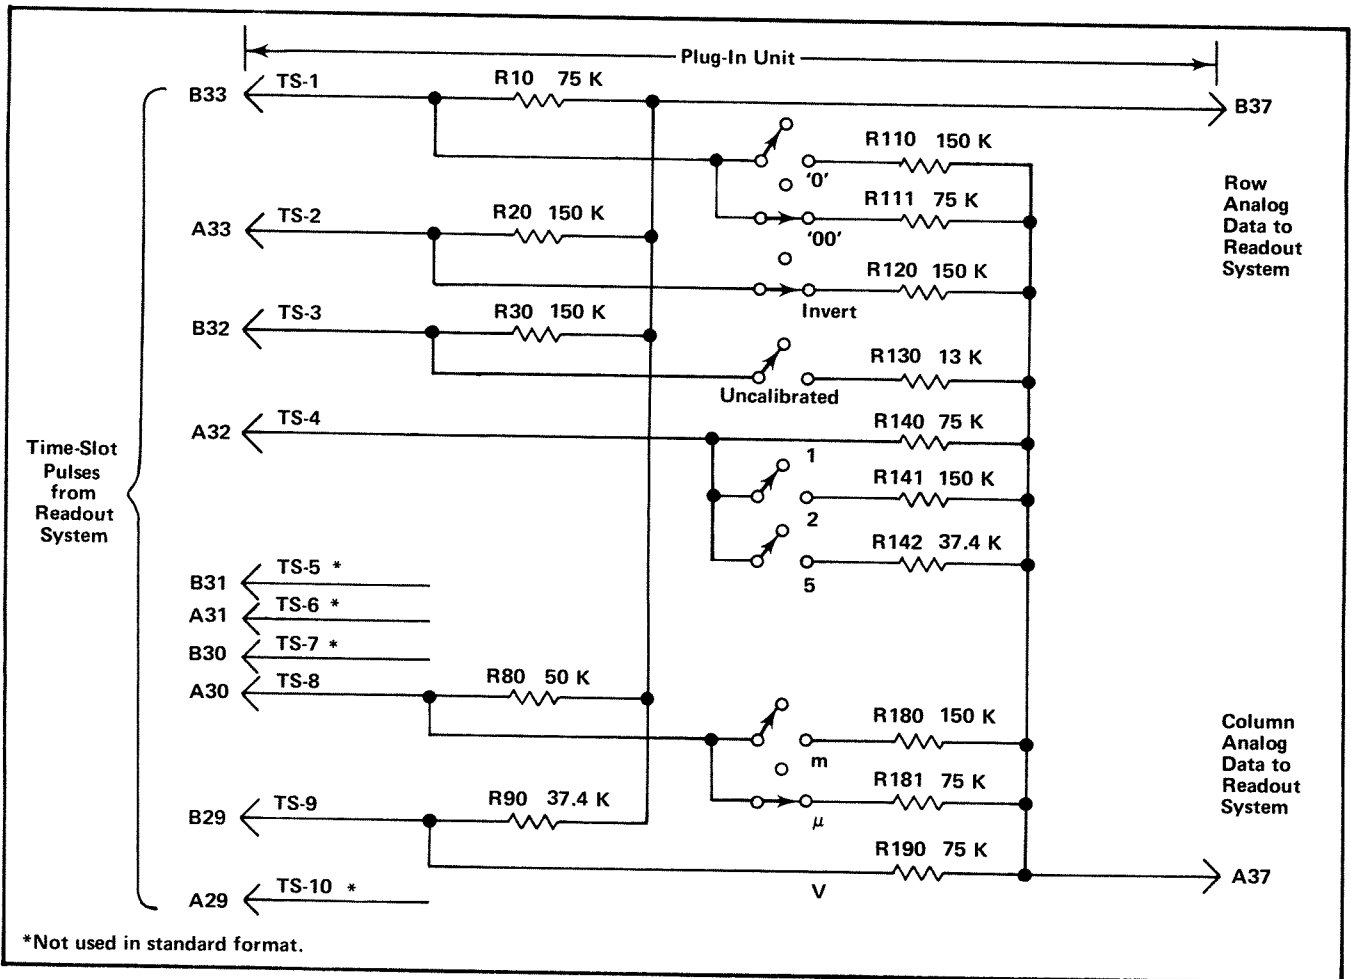

Fig. 3-44. Typical encoding scheme for voltage-sensing amplifier plug-in unit. Coding shown for deflection factor of 100 microvolts.
Data is conveyed from the plug-in unit to the Readout System in the form of an analog code having up to 11 current levels (from zero to one milliamperes in 100 microampere steps). The characters which can be selected by the encoded data are shown on the Character Selection Matrix (see Fig. 3-37). Each character requires two currents to define it, these currents are identified as the column current and the row current which correspond to the column and row of the matrix. The column and row data is encoded by resistive programming in the plug-in units. Figure 3-44 shows a typical encoding scheme for a voltage-sensing amplifier plug-in unit. Notice that the 10 time-slot (TS) pulses produced by the Time-Slot Counter stage are connected to the plug-in unit. However, time-slots 5, 6, 7, and 10 are not used by the plug-in unit to encode data when using the Standard Readout Format (see Table 3-2 for Standard Readout Format). The amplitude of the time-slot pulses is exactly -15 volts as determined by the Timer stage. Therefore, the resultant output current from the plug-in units can be accurately controlled by the programming resistors in the plug-in units.
For example, in Fig. 3-44 resistors R10 through R90 control the row analog data which is connected back to the Readout System. These resistors are of fixed value and define the format in which the information will be presented by the Readout System. Fig. 3-45A shows an idealized output current waveform of row analog data which results from the 10 time-slot pulses. Each of the steps of current shown in these waveforms corresponds to 100 microamperes of current. The row numbers on the
The Column analog data is defined by resistors R110 through R190. The program resistors are connected to the time-slot lines by switch closures to encode the desired data. The data as encoded by the circuit shown in Fig. 3-44 indicates a 100 microvolt sensitivity with the display inverted and calibrated vertical deflection factors. This results in the idealized output current waveforms shown in Fig. 3-45B at the column analog data output, terminal A37 of the plug-in interface. Resistor R111, connected between time-slot 1 and the column analog data output, encodes two units of current during time-slot 1. Referring to the Character Selection Matrix, two units of column current along with the two units of row current encoded by R10 (row 3) indicates that two zeros should be added to the display. Resistor R120 adds one unit of column current during time-slot 2 and along with the one unit of current from the row output, the Readout System is instructed to add an invert arrow to the display. R130 is not connected
The column analog data encoded by the plug-in can be modified by attenuator probes connected to the input connectors of vertical plug-in units. A special coding ring around the input connector of the plug-in unit senses the attenuation ratio of the probe (with readout-coded probes only). The probe contains a resistor which results in additional column current. For example, if a 10X attenuator probe is connected to a plug-in with the coding for 100 microvolts as shown in Fig. 3-44, an additional unit of
current is added to the column analog data during time-slot 1. Since two units of current were encoded by R111 (see Fig. 3-44), this additional current results in a total of three units of column analog current during this time-slot. Referring to the Character Selection Matrix, three units of column current along with the two units of row current encoded by R10 indicates that the prefix should be reduced. Since this instruction occurs in the same time-slot which previously indicated that two zeros should be added to the display and only one instruction can be encoded during a time-slot, the zeros do not appear in the display. The CRT readout will now be reduced to 1 mV (readout program produced by plug-in same as for previous example).
Finally, memory C is interrogated during time-slot 8 to obtain information on whether the prefix should be reduced or left at the value which was encoded. If data has been encoded which calls for a reduction in prefix, a negative-going output level is produced at pin 7. This negative level subtracts one unit of column current from the data at the input to the Column Decoder stage. Notice on the Character Selection Matrix of Fig. 3-37 that a reduction of one column when row 4 is programmed results in a one unit reduction of the prefix. For example, with the 100 μ V program shown in Fig. 3-44, if the data received from the plug-in called for a reduction in prefix, the CRT readout would be changed to 1 mV (zeros deleted by program; see Encoding the Data).